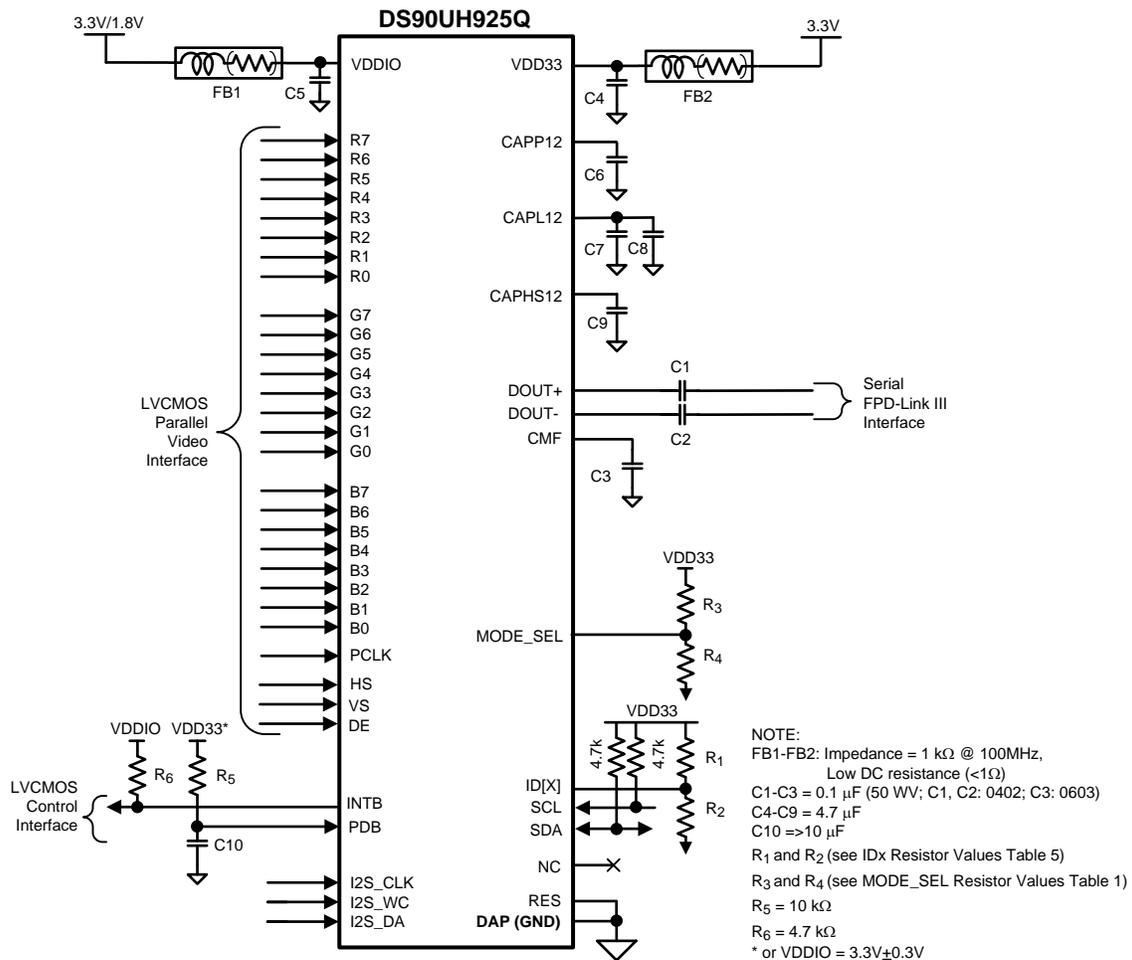

Figure 22. Typical Connection Diagram
Figure 22 shows a typical application of the DS90UH925Q serializer for an 85 MHz 24-bit Color Display Application. The CML outputs must have an external 0.1  $\mu\text{F}$  AC coupling capacitor on the high speed serial lines. The serializer has an internal termination. Bypass capacitors are placed near the power supply pins. At a minimum, six (6) 4.7 $\mu\text{F}$  capacitors (and two (2) additional 1 $\mu\text{F}$  capacitors should be used for local device bypassing. Ferrite beads are placed on the two (2) VDDs ( $V_{\text{DD33}}$  and  $V_{\text{DDIO}}$ ) for effective noise suppression. The interface to the graphics source is with 3.3V LVCMOS levels, thus the  $V_{\text{DDIO}}$  pin is connected to the 3.3 V rail. A RC delay is placed on the PDB signal to delay the enabling of the device until power is stable.